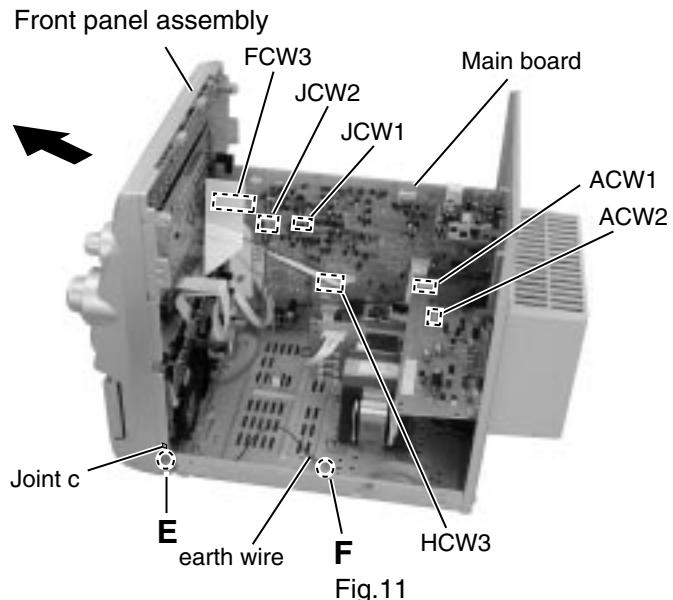

Fig.11
■Removing the front panel assembly (See Fig.11 to 13)
- Disconnect the card wire from connector ACW1 & the harness from connector ACW2 on the AMP board. (See Fig.11)